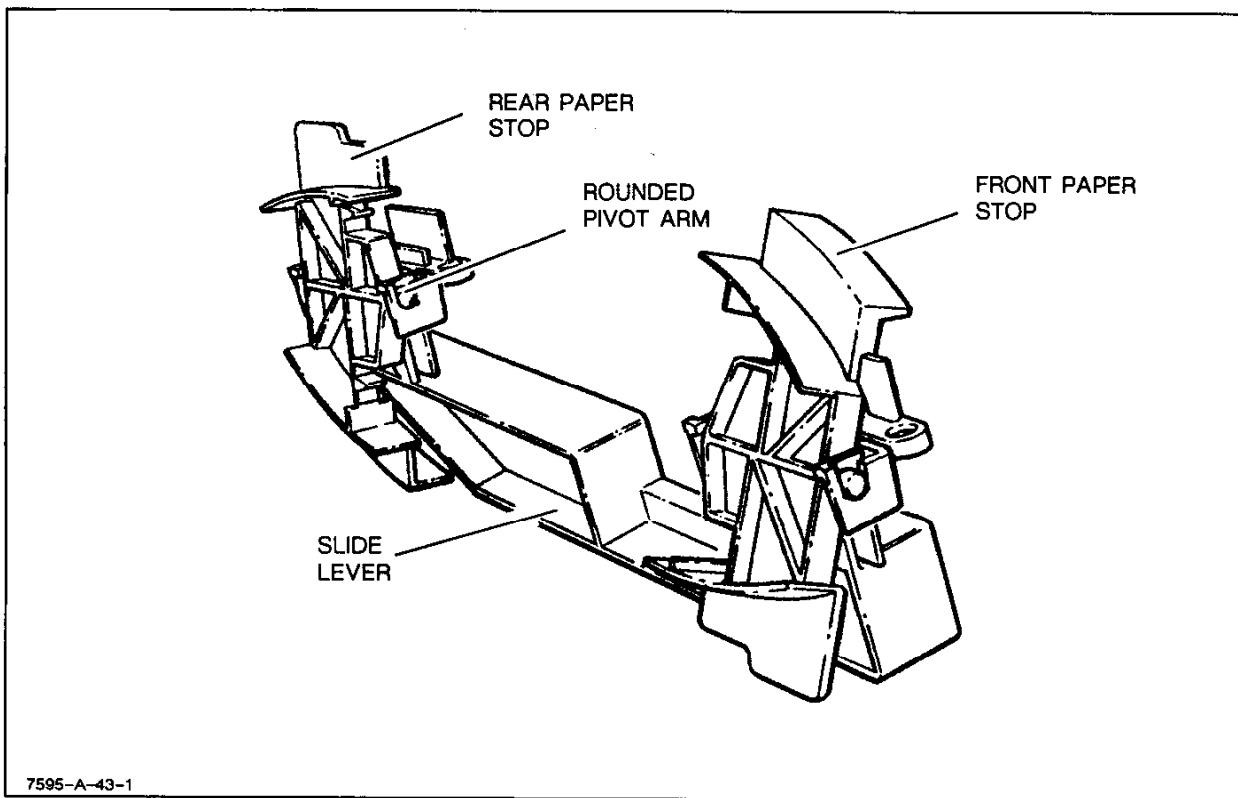
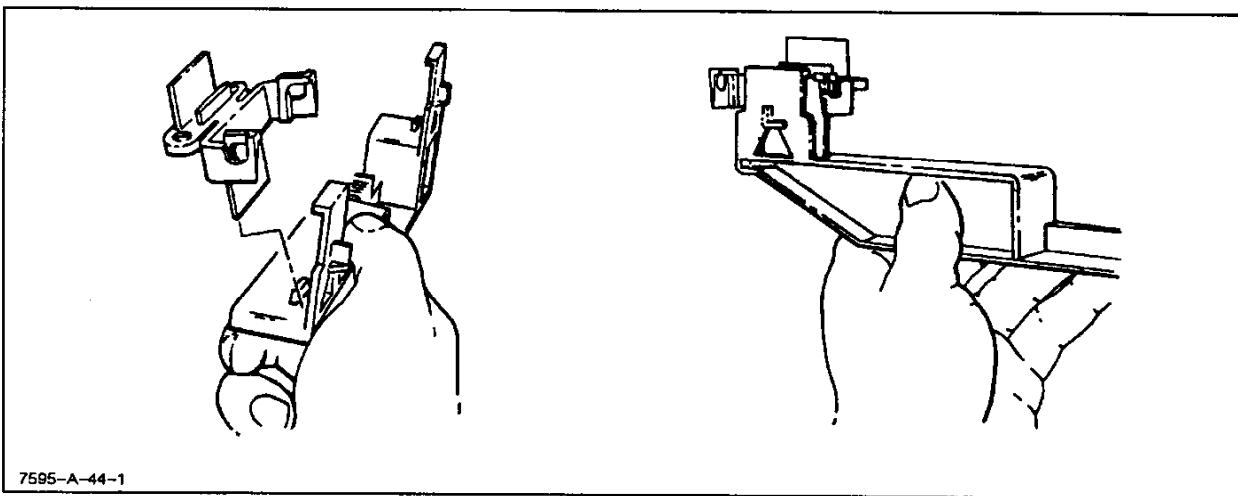

Figure 6-46. Paper Stop Removal
Figure 6-47. Slide Lever Removal
- h. Remove the back end of the slide lever by turning it counterclockwise (as viewed from the front of the plotter) until the retaining tab clears the upper ledge of the holding block. Repeat for the front end of the slide lever. See Figure 6-46 and Figure 6-47.
- d. Attach the slide lever by inserting it between the paper stops and the holding blocks. See Figure 6-46.